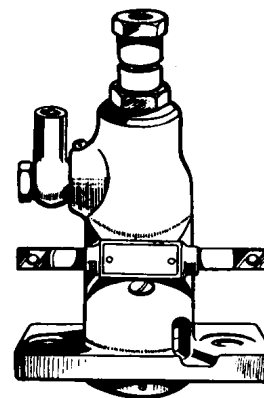

Fig. 8. Type BPF1Z../00
Model BPF1C, BPF1X and BPF1D pumps are offered with two positions of mounting flange, as shown in figs. 8 and 8A—the type designations being:—
1. BPF1Z../00. BPF1C../00. BPF1X../00 and BPF1D../00. Horizontal flange with its long axis parallel to control rod—fig. 8.